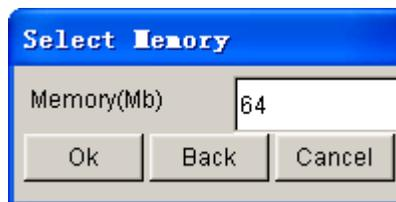

Figure 3.9.2 Define Memory
3. The SELECT MEMORY window appears, as shown in Figure 3.9.2.